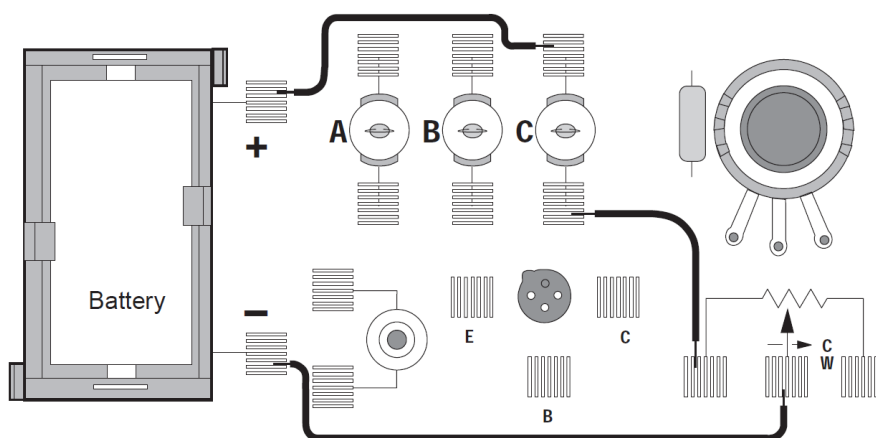

Figure 2.2
14. Connect the circuit as shown in Figure 2.2. What is the effect of rotating the knob identified as a "Potentiometer" on the device?